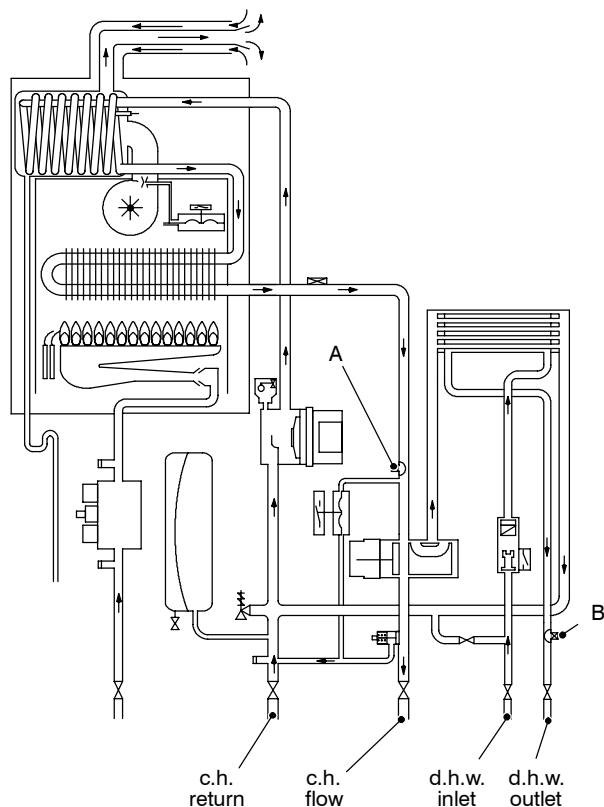
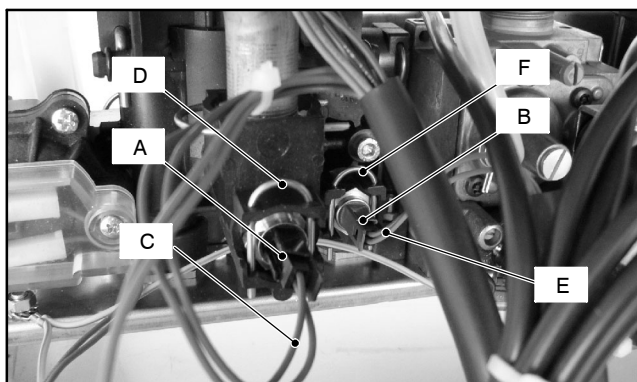

Fig. 72
Fig. 73
On the boiler there are two Temperature probes. One on the output of the primary heat exchanger (c.h. Temperature probe) *A* in Fig. 72 and Fig. 73; one on the output of the d.h.w. heat exchanger (d.h.w. Temperature probe) *B* in Fig. 72 and Fig. 73.
- 3 Remove the electric connector *C* of the c.h. Temperature probe (Fig. 73).
- 4 Remove the fork *D* and remove the c.h. Temperature probe from the plastic group (Fig. 73).
- 3 Remove the electric connector *E* (Fig. 73).
- 4 Remove the fork *F* and remove the d.h.w. Temperature probe from the plastic group (Fig. 73).